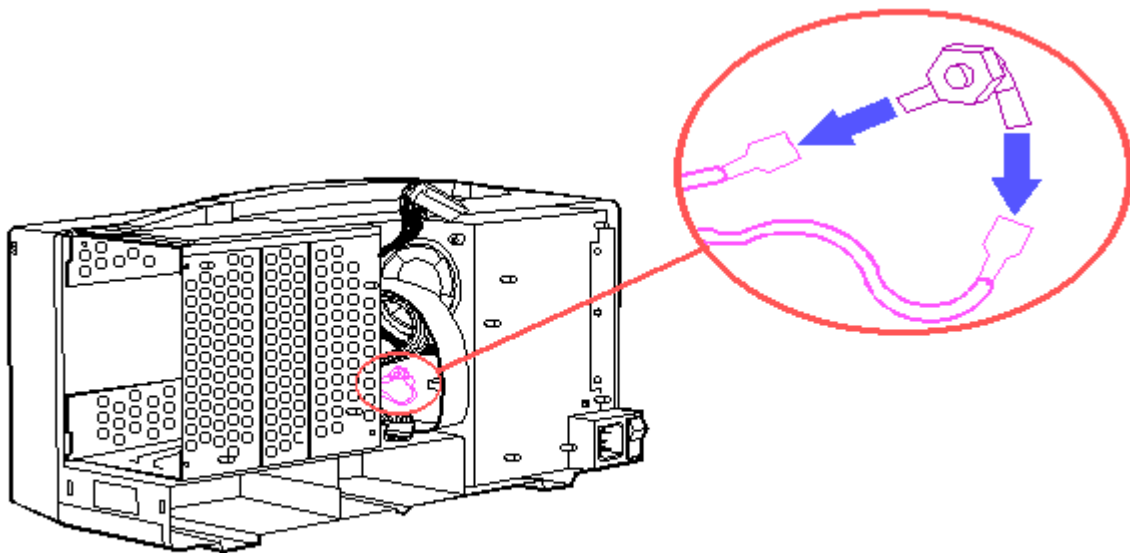

Figure 8-52. Disconnecting the Plasma Display Data Cable and the Plasma Display Power Cable Ground Wire
10. Disconnect the plasma display data cable and the plasma display power cable ground wire from the power supply (Figure 8-52).